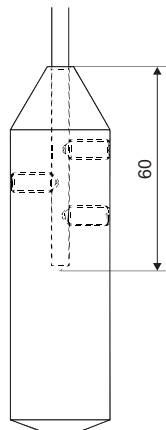

Fig. 13: Drawing of the rope electrode weights
1. For the rope electrode, the three fixing screws on the weight must be loosened and the end of the rope pulled out, see Figure 13.